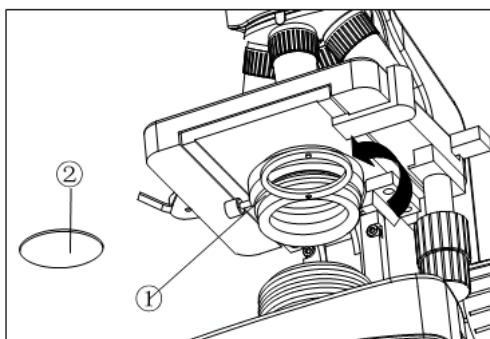

Fig.7
#### 2.2.4 Installing the colour filters (Fig.7)
1. Turn the condenser bracket ① out at the direction of arrow in Fig.7